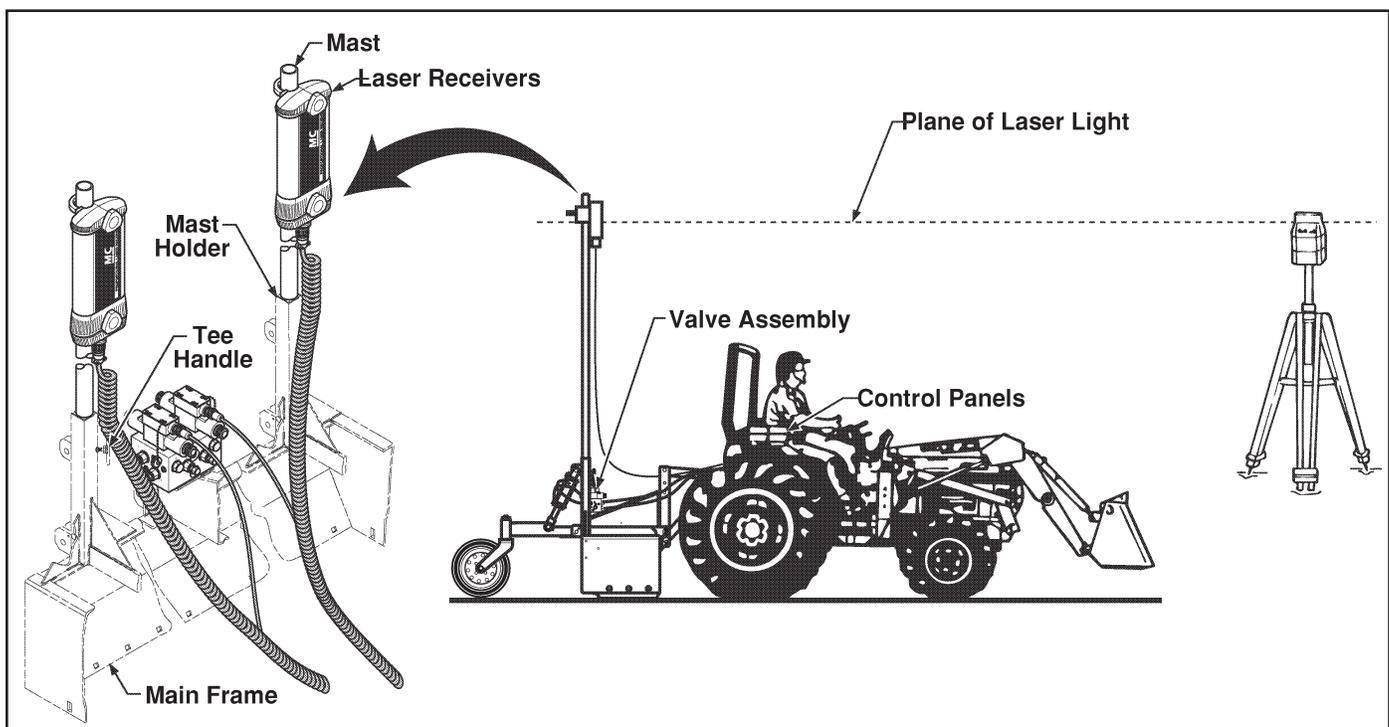

Figure 22. Components of the Automatic Control System
6. Insert the two mast poles into the holders on each side of the Laser Grading Box until they rest on the bottom of tube and tighten the tee handle to secure. Clamp one Laser Receiver near the top of each Mast so it is higher than any local obstructions including the tractor cab or fall protection devices. (Refer to Figure 22).